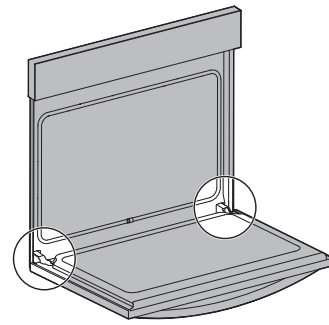

Figure 18: Door hinge location
1. Open oven door completely, horizontal with floor (Figure 18).
3. Fully open the oven door, horizontal with floor (Figure 18).